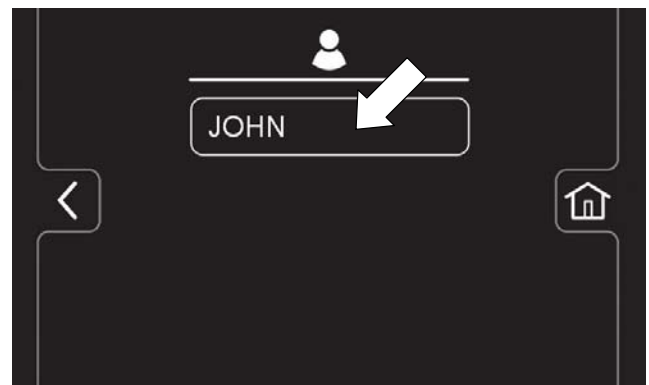

FIG. 181
7. Select a pre-assigned user profile. In this example, operator profile "JOHN" is selected (Figure 181). Turn the key off to apply the setting.